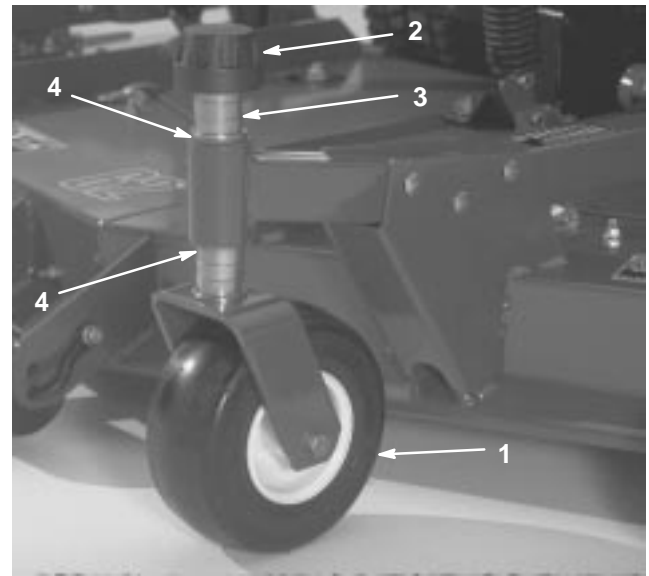

Figure 12
1. Remove the tensioning cap from the spindle shaft and slide the spindle out of the front castor arm (Fig. 12). Remove the washer from the spindle shaft. Slide the spacers onto the spindle shaft to get the desired height-of-cut, then slide the washer onto the shaft.